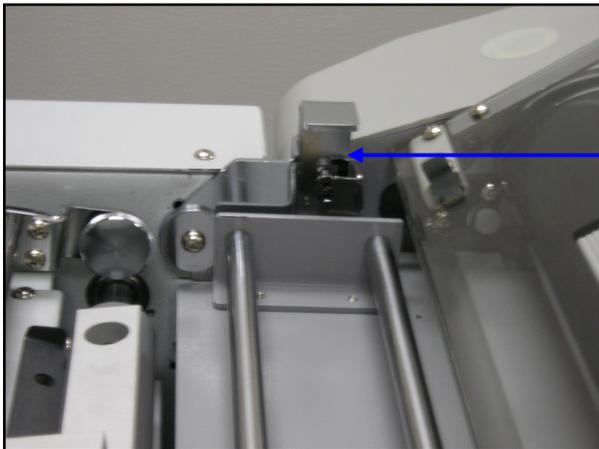

Figure 9
**A. Left Feeder Latch (Figure 9)**